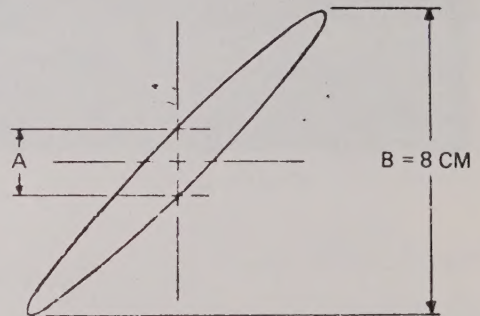

Figure 3-3. Phase Shift Measurements
2. Center the trace horizontally and adjust the Y controls for 8 centimeters of vertical deflection. The pattern obtained should be similar to Figure 3-3.
To obtain full scale vertical deflection of 8 centimeters , it may be necessary to temporarily reduce the horizontal amplitude of the display. To accomplish this, set the X VOLTS/CM switch one step counterclockwise from its initial setting. Adjust the display for 8 centimeters of vertical deflection. Reset X VOLTS/CM switch to its original setting; recenter the display, and read dimension A in Figure 3-3.